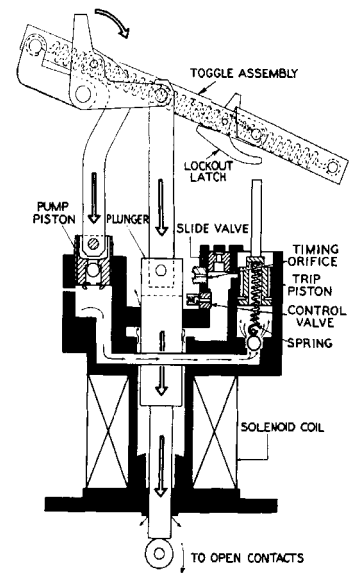

Figure 11. Plunger force pulls plunger down for third operation which is retarded by blocked escape port.
Third operation – During this operation, Figure 11, the plunger’s movement down into coil is impeded by oil. Oil displaced by plunger raises slide valve but can no longer flow through escape port because trip piston is covering it. Therefore, the oil must flow around plunger or through timing orifice in slide valve cylinder. If the fault current is high, enough pressure will be developed in the slide valve cylinder to open the spring-loaded control valve. This provides an additional outlet for the oil. Thus, release of oil in the plunger cylinder is governed by (1) leakage, (2) timing orifice size, and (3) the control valve.